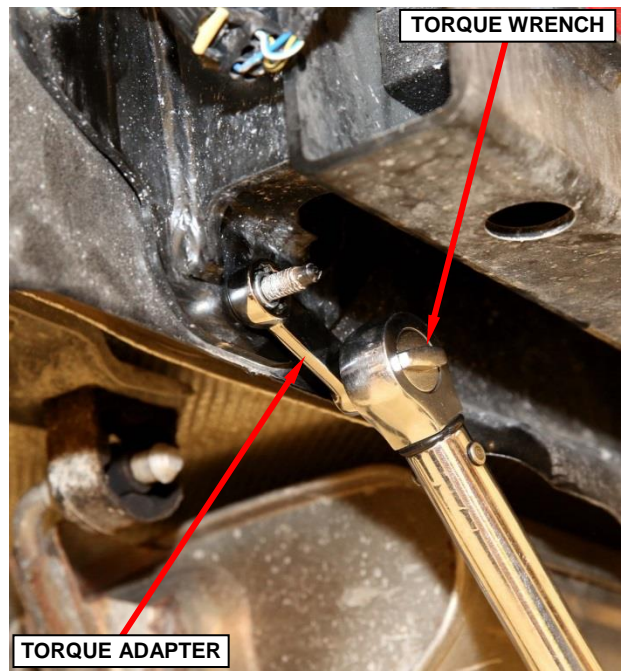

Figure 14 – Tighten Nuts to Proper Torque Specification
17. Using the previously specified torque adapter and torque wrench, tighten all six nuts to 16 ft. lbs. (22 N·m) (Figure 14).